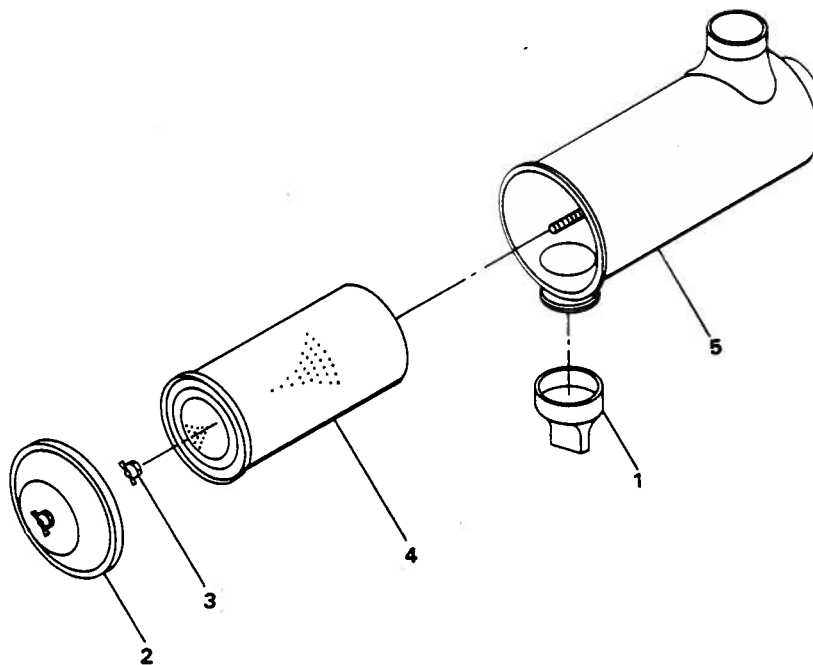

Figure 5-29. Air Cleaner Assembly
5-46. DISASSEMBLY. (See figure 5-29.)
- a. Remove vacuator valve (1, figure 5-29).
- b. Remove cover assembly (2).
- c. Remove nut assembly (3).
d. Remove element assembly (4) from body assembly (5). Discard element assembly.